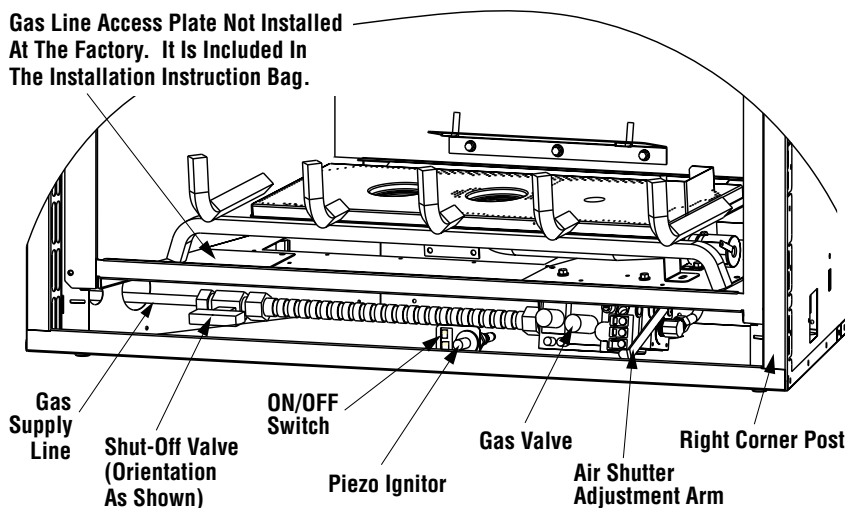

Figure 40
Access the valve compartment by removing the lower control compartment panel (see **Figure 40**) by lifting and pulling the panel forward. The panel is mounted on supporting tabs at the extreme right and left hand sides. Engage the tabs into the reliefs in the panel.
Remove the gas line access plate and gasket from the provided plastic bag and install them over the opening, using the provided screws (4) as shown in **Figure 40** page 26.
With gas line installed run initial system checkout before closing up the front of the unit. Follow the pilot lighting instructions provided in the Care and Operation Instructions manual. For piezo igniter location see **Figure 40** on **Page 26** (millivolt appliances only).
Note: Lighting Instructions are also found on the literature tag tied to the gas piping next to the gas valve. To access the tag, open the lower control compartment door (Figure 40 on Page 26) by pulling the panel forward.